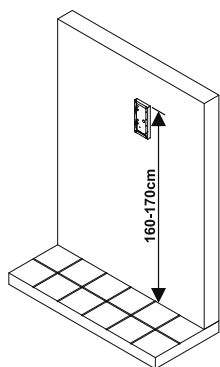
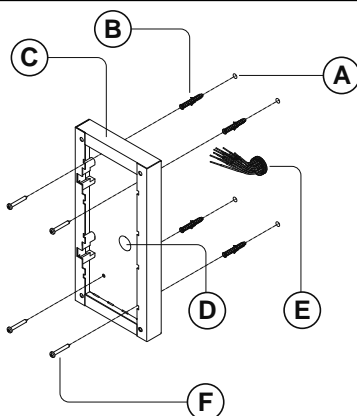

Fig. 34
Fig. 35
1. Place the surface box against the wall (165-170cm between the top of the box and the floor level as shown in **Fig.34**) and mark the fixing holes **(A)** for the wall plugs **(B)** and the hole for the cables **(E)** (**Fig.35**). Observe the orientation of the box with the hinge mount **(M)** on the left;
2. As shown in **Fig.35**, drill the fixing holes **(A)** , insert the wall plugs **(B)** and feed the cables **(E)** through the surface box opening **(D)** , fix the surface box **(C)** to the wall using the screws **(F)** ;